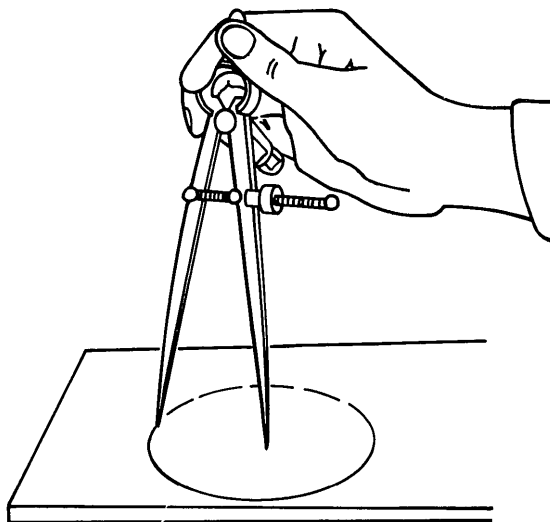

Figure 3-23. Scribing a Circle with Dividers
b. *Use of Dividers.* Dividers can be used to scribe a circle by using the following procedures (see figure 3-23):
- (1) Set the desired radius on the dividers using the appropriate graduations on a rule.
- (2) Place the point of one of the divider legs on the point to be used as the center.
- (3) Lean the dividers in the direction of movement and scribe the circle by revolving the dividers.